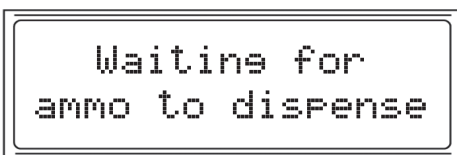

Fig. 32
- **Waiting for Ammo to Dispense:** This message (*Fig. 32*) is displayed when ammo is running low in the hopper, and the unit is waiting for more ammo to be picked up by the hopper wheel.